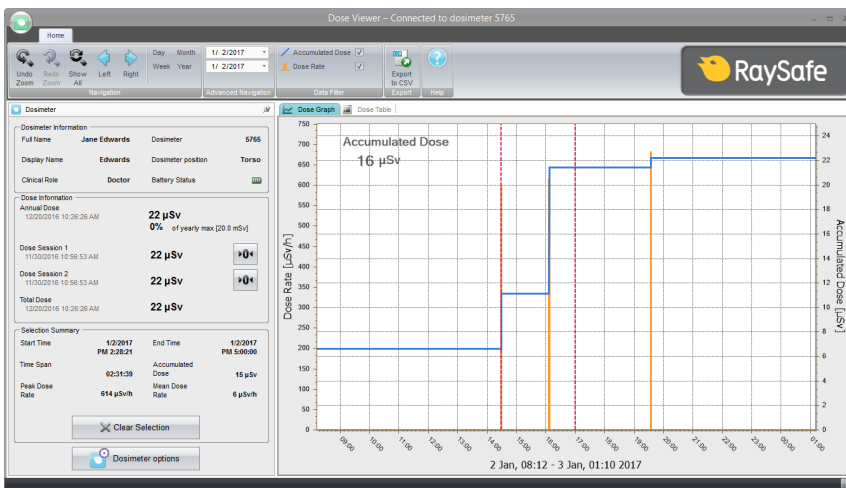

Figure 11. Dose Viewer with a dosimeter connected.
2. Dose Viewer will detect the dosimeter within a few seconds. Verify that *Dosimeter information* and *Dose graph* are presented (Figure 11).